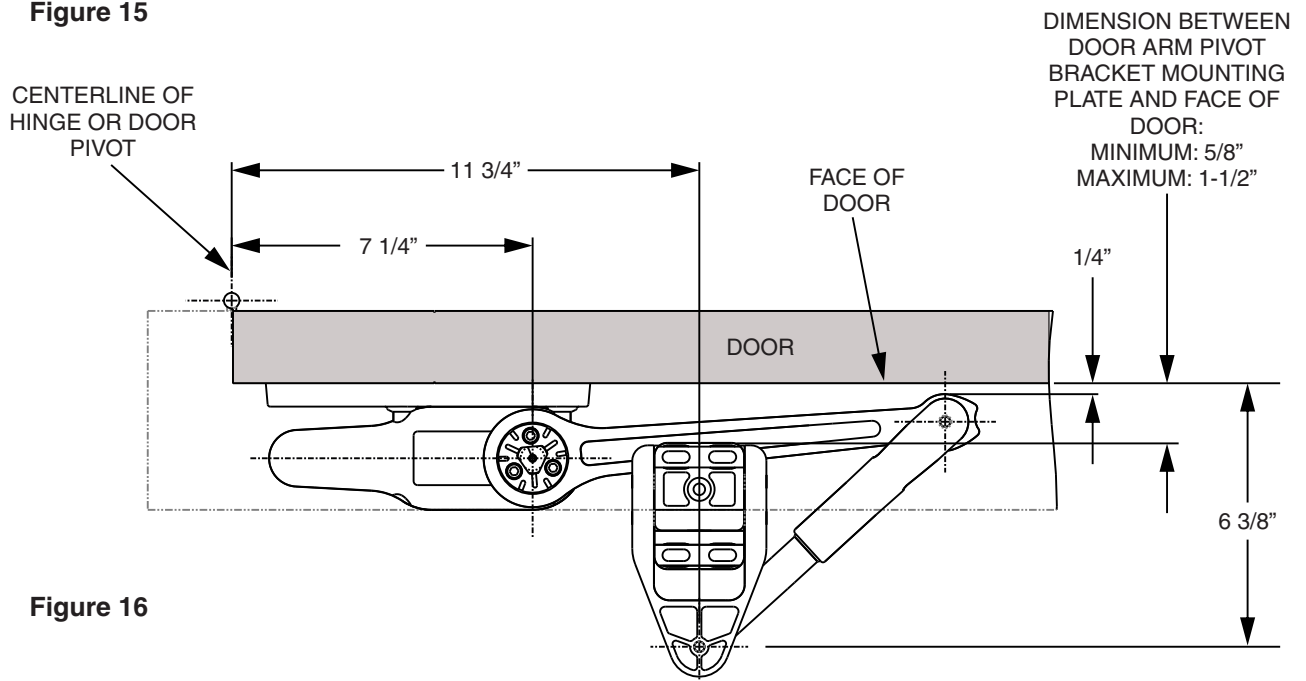

Figure 16
8. Refer to Figure 16 and verify all mounting dimensions.